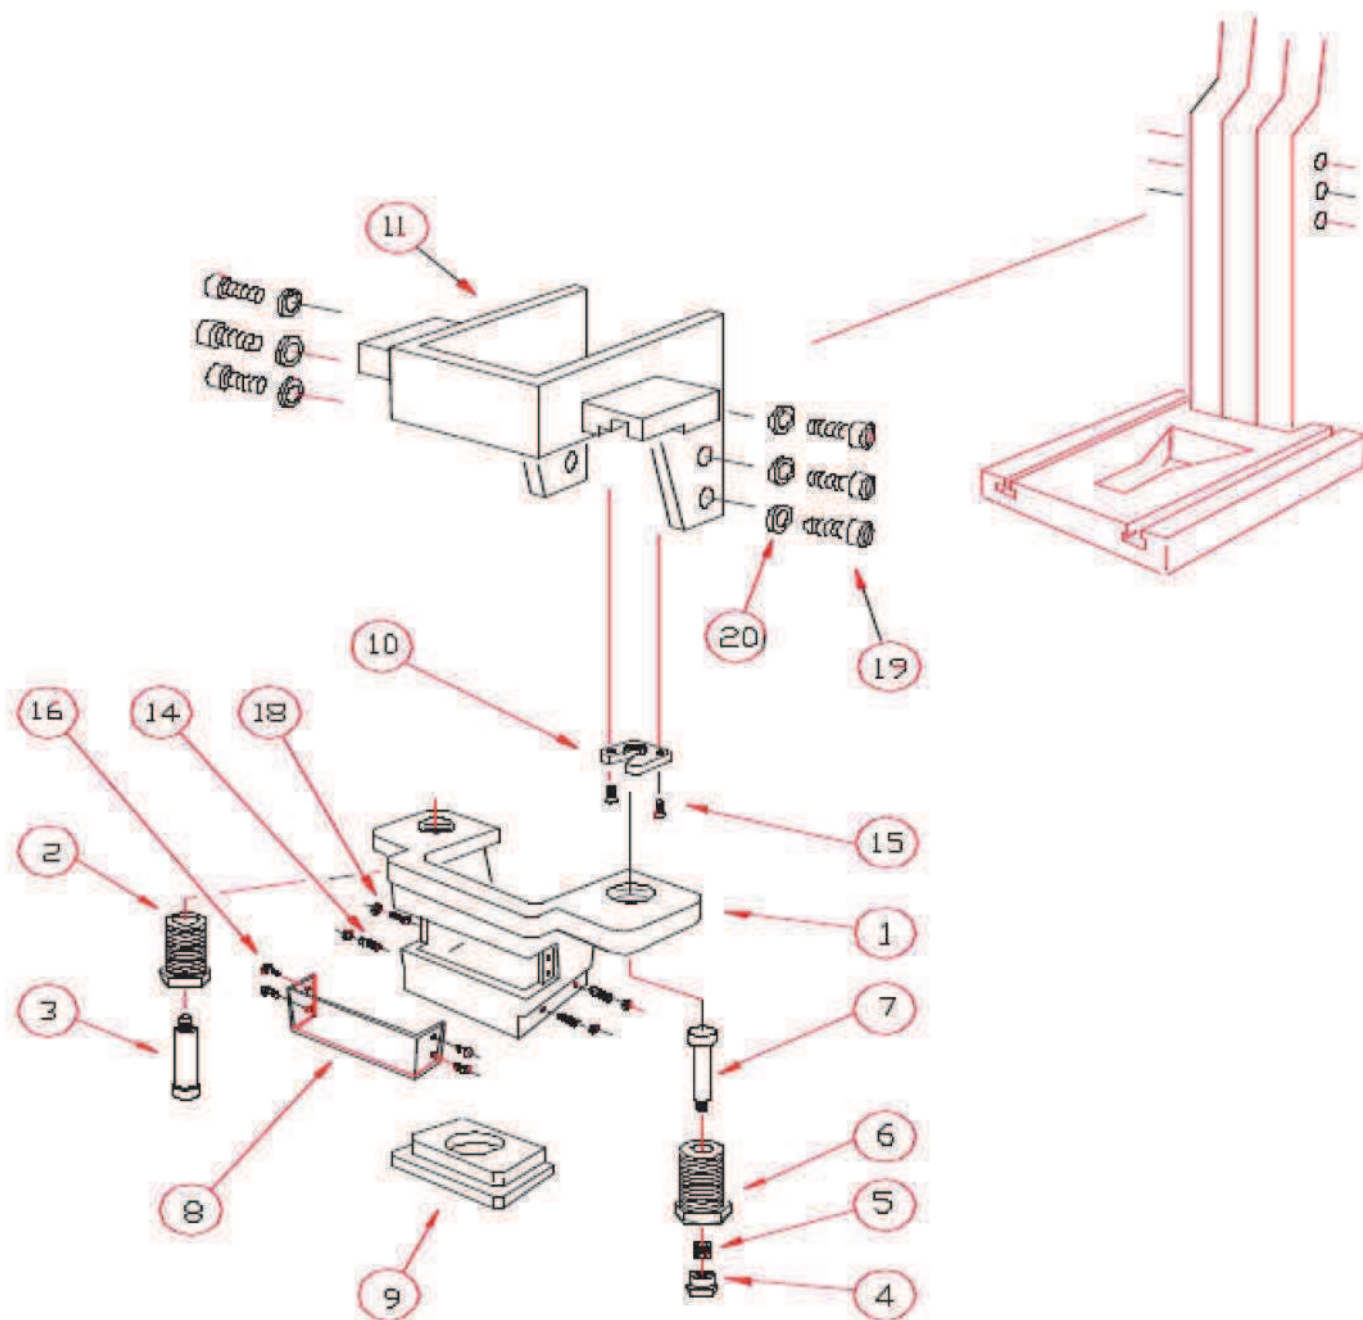

FIGURE 54
- ☑ Loosely position the die holder (item 10) on the notch bolster.
- ☑ Assemble the stripper arrangement to the machine, as outlined in Figure 54 and fully open the stripper (item 1).
- ☐ Loosen the four hex head screws (15) securing the die holder(1) to the bolster and remove the die holder from the bolster. Clean the bolster.
- ☐ Secure the bottom blades to the die holder as detailed in Figure 54. (Note that there is no blade adjustment on vee notch.)
- ☐ Having secured the dies to the die holder, place the die holder onto the bolster and slide the die holder to the top blade. Finger tighten the four hex head securing screws. Adjust the position of the die holder to achieve a blade clearance of 0.025" (0.6mm). See Figure 54.
- ☐ Fit the support table as in Figure 54 and set the back stops so that the material does not extend beyond the rear of the top blade.